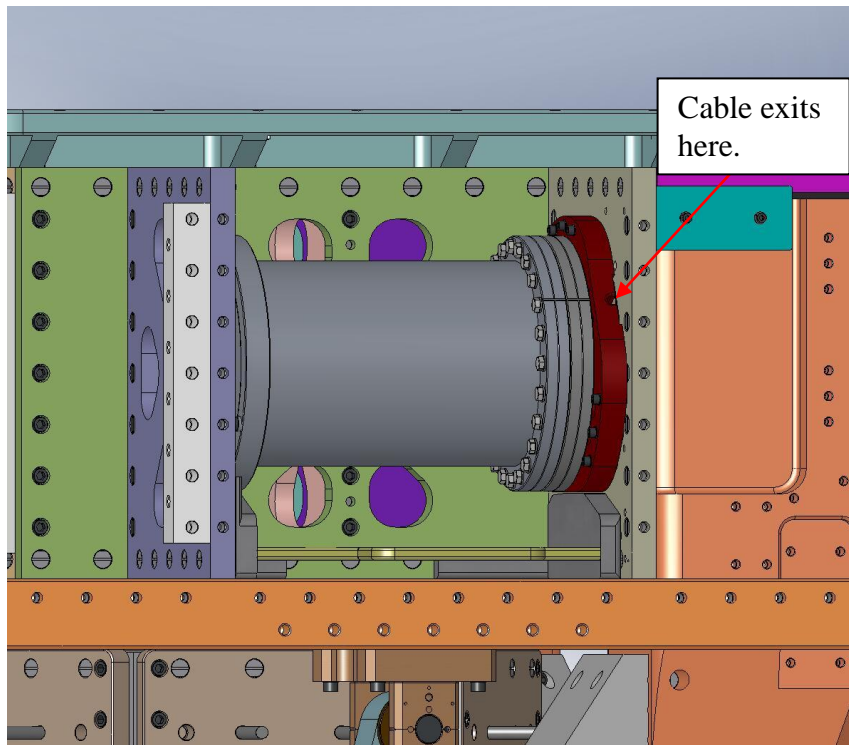

Figure 3.120. Horizontal GS-13 mounted to Radial Rib in Pitchfork. The seismometer's cable should exit from the notch indicated by the arrow.
- Slide the **Horizontal GS-13** onto the **Install Tool**. (The **Captive Screws** (D071136) must be pushed back into the **Adapter Plate** (D071180) to pass by the **Radial Rib**.) Note the orientation of the cable notch in the **Adapter Plate**, shown in Figure 3.120.